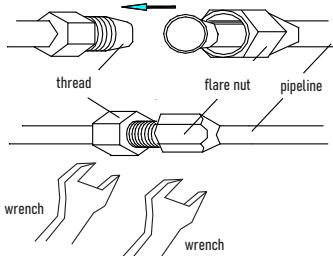

Figure 11
- Thoroughly tighten the nut with a torque wrench until a click is heard (Fig. 11).